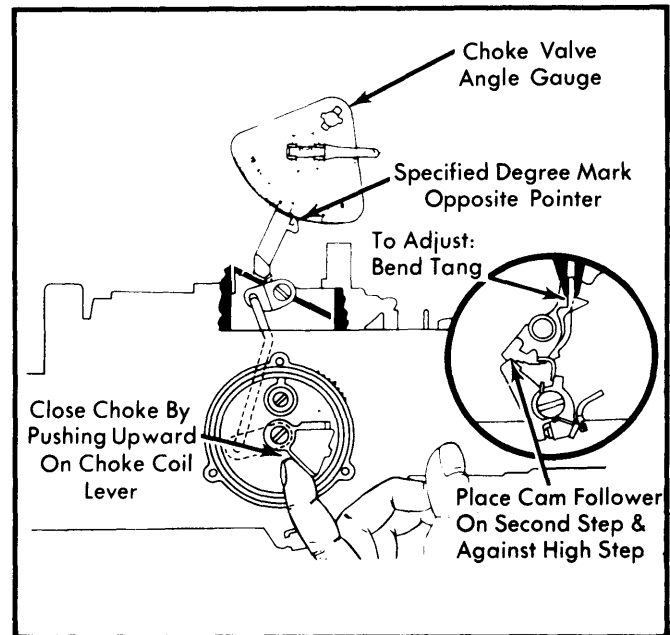

Fig. 5 Adjusting Choke Rod
1) Place fast idle speed cam follower on second step of fast idle cam against shoulder of highest step. See Fig. 5.